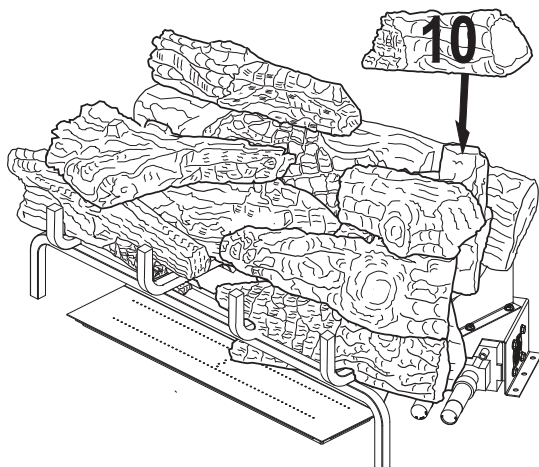

Figure 46 - Installing Log # 10
10. Place the right rear top log (#10) on top of the right rear chunk log (#7) as shown in **Figure 46, Page 23**. Match the rectangular peg on the top of the right rear chunk log (#7) with the rectangular hole on the bottom of the right rear top log (#10).